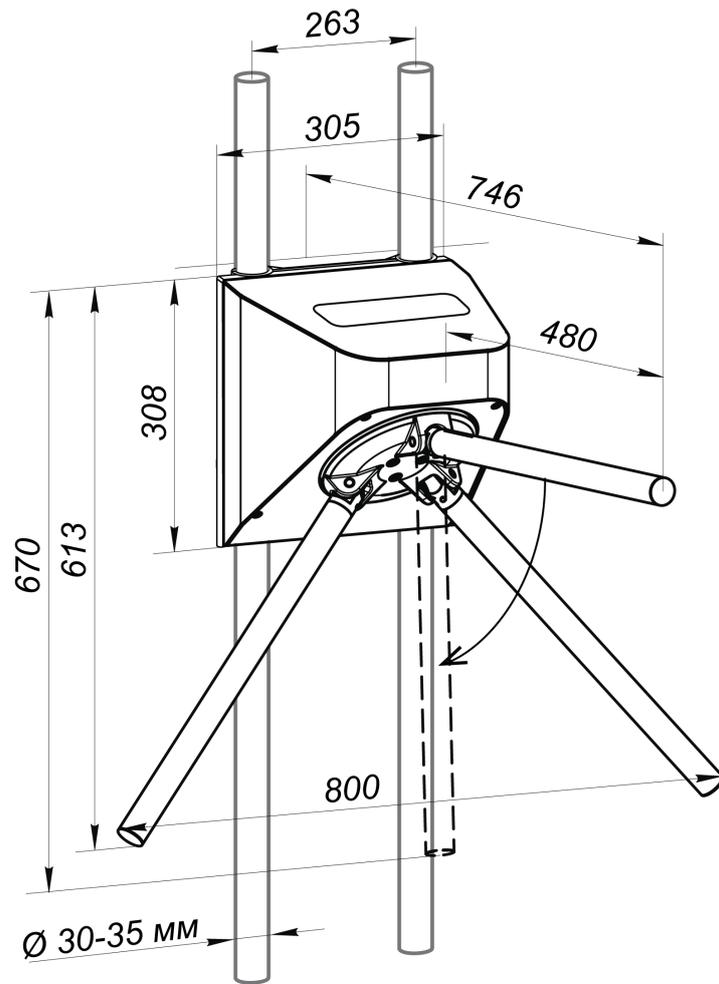
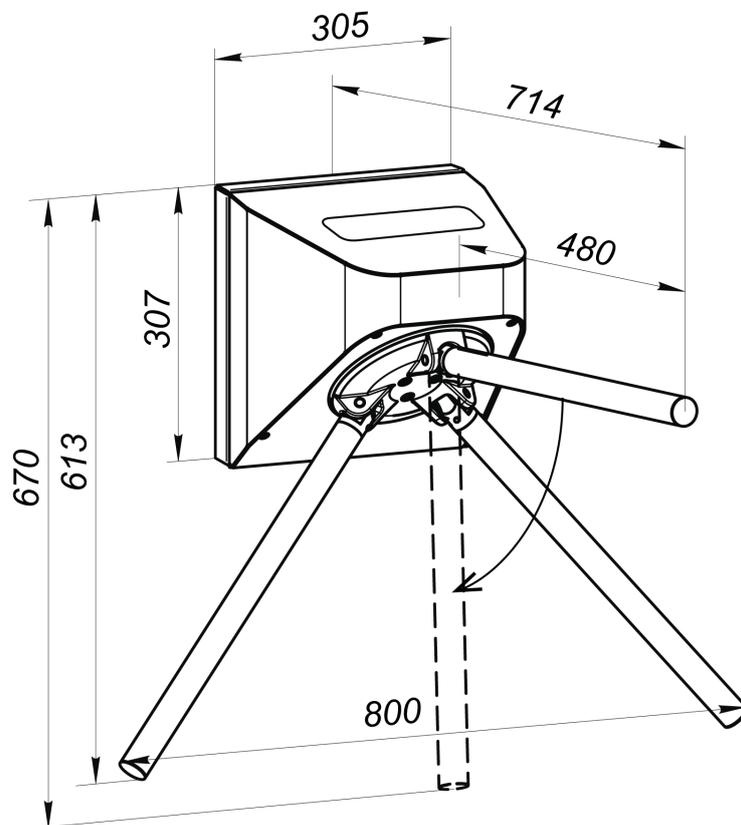

Figure 2. Overall dimensions of *TTR-10AT* modification with *MT10.1* bracket
Figure 3. Overall dimensions of *TTR-10AK* modification with *MT10.2* bracket
The design of the turnstile (Fig. 2). Numbers in brackets correspond to Fig. 2 and 3 of this Manual.
You can access the internal components of the turnstile by detaching the housing (1). The housing and the turnstile base are secured with four mounting screws (7) for SW3 Allen key. When operating the turnstile, the housing must be secured to the base. Inside the base under the housing are located (Fig. 3): the drive control board (9), interface board (10) and the turnstile mechanism, which includes:
- drive (12) assembled with electric motor and position sensor board;
- electromechanical blocking device (14) with optical sensors;
- emergency unblocking device (*Fire Alarm*) (11) (anti-panic function of automatic folding arms).
The housing (1) contains LED indication unit (2) to inform about the turnstile current status and the established operation mode (Fig. 2 and 4). The display has three pictographic indicators: